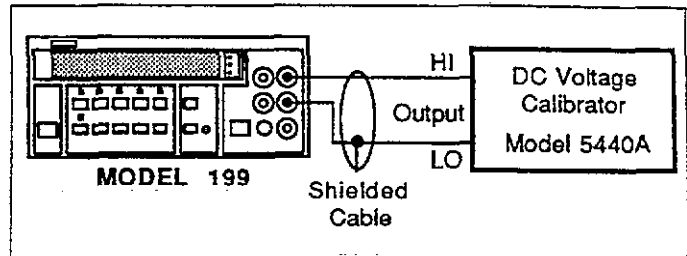
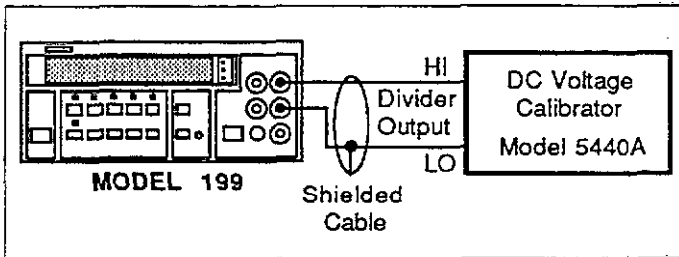

Figure 6-2. DC Volts Calibration Configuration (3V-300V Ranges)
Figure 6-1. DC Volts Calibration Configuration (300mV Range)
2. Connect the DC calibrator to the instrument as shown in Figure 6-1 (300mV range only; use Figure 6-2 for 3V-300V ranges).
- H. Repeat the procedures in step 3 for the remaining DCV ranges using Table 6-5 as a guide. Figure 6-2 shows connections for the 3V-300V ranges.